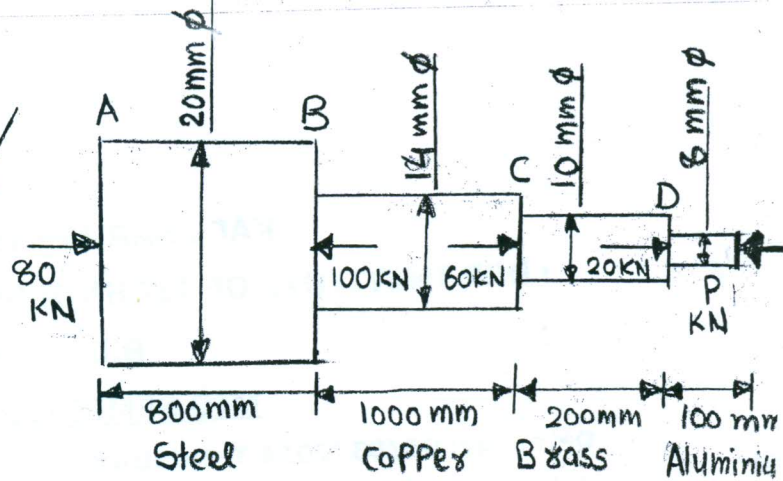

Fig. 2
(C) Determine force P considering equilibrium. Also determine stresses in each part of road ABCDE shown in Fig.2. 03